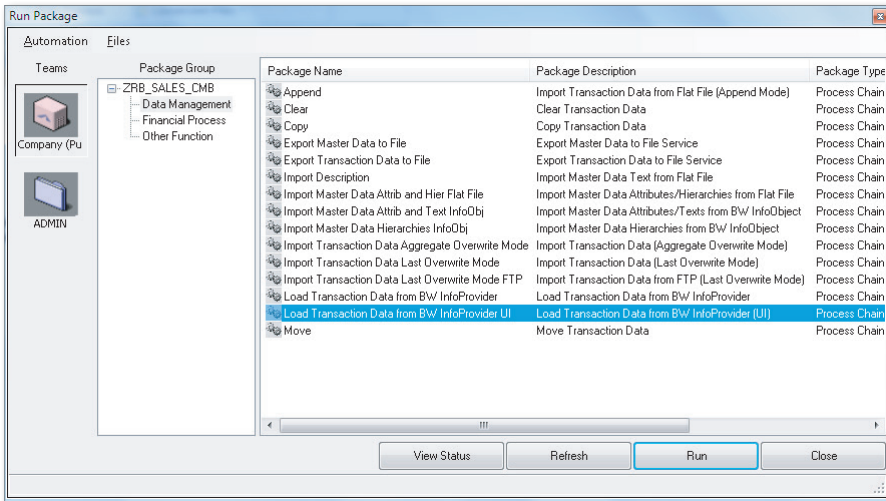

Figure 4.50 Loading Data from an InfoCube into a Model—Part C
5. You're now ready to execute the package to load the data from the ZSLSACT InfoCube into the SAP BPC model. Select the LOAD TRANSACTION DATA FROM BW INFOPROVIDER UI Data Manager package under the DATA MANAGEMENT group, and click on RUN (Figure 4.50). This Data Manager package uses the /CPMB/LOAD_INFOPROV_UI process chain. This will open the RUN PACKAGE dialog box.